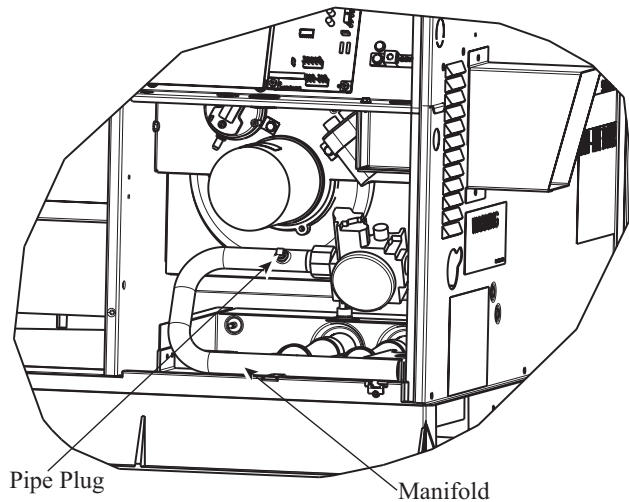

Fig. 26 – Burner Assembly
2. Remove pipe plug on manifold (See Fig. 26) and connect manometer. Turn on gas supply to unit.
4. Turn off gas supply to unit. Remove manometer from pressure tap and replace pipe plug on gas valve. (See Fig. 26.) Turn on gas to unit and check for leaks.